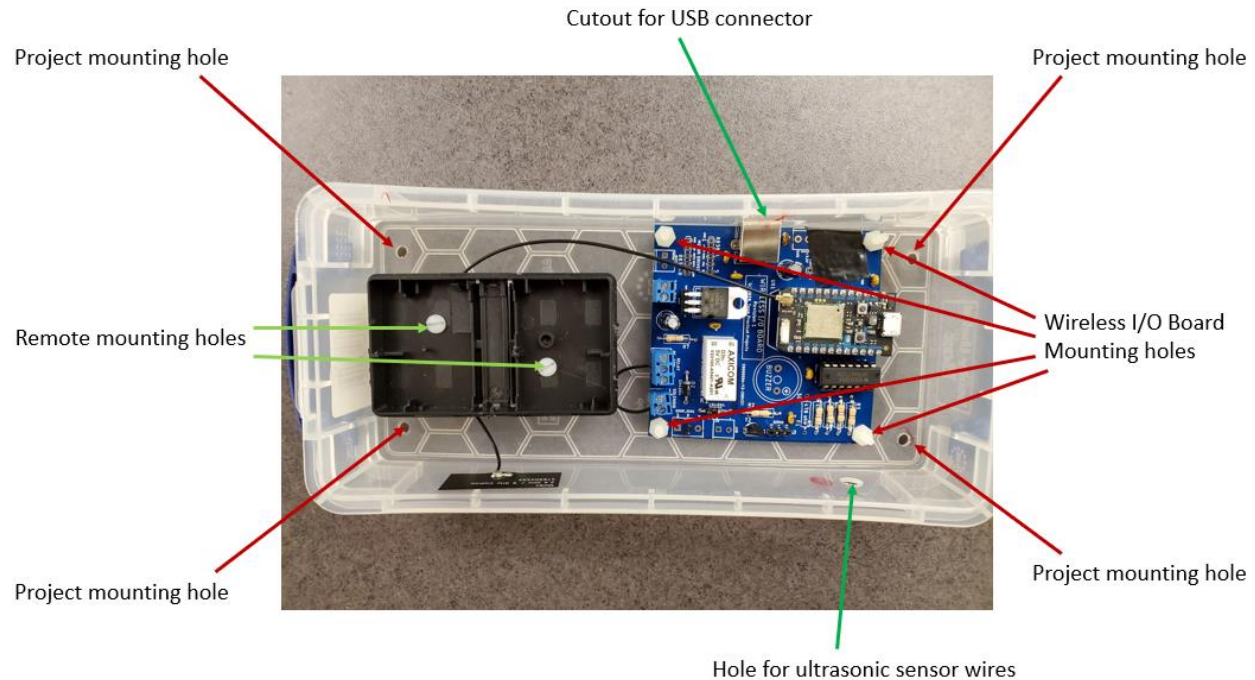

Figure 4-5. Mounting electronic Parts in the Project Enclosure.
The next step is to drill out the plastic project enclosure (pencil box) to accommodate these components. Use figure 4-5 as a guide:
- Drill 4 holes in the corners of the enclosure for mounting the enclosure in the garage (11/64" holes will suffice for mounting with #6 wood screws). These holes are clearly visible in figure 4-5.
- Locate the back of the garage remote unit in the enclosure as shown in figure 4-5. Mark where the open ends of the standoffs contact the enclosure through the transparent rear of the enclosure. Drill these two holes with a 1/8" bit.
- Place the *Wireless I/O Board* in the enclosure, approximately as shown in figure 4-5. Make sure that the project mounting holes are clear of the board and that there is sufficient space between the *Wireless I/O Board* and the garage remote unit to wire the two together. Mark the *Wireless I/O Board* mounting holes and also the center of the cutout for the USB connector. Additionally, mark a location to drill a 1/4" hole in the side of the enclosure below the *Wireless I/O Board* to run the ultrasonic sensor wires through the enclosure. Locate this hole a little to the right of where the sensor wires connect to the *Wireless I/O Board*; see figure 4-5. Drill these two 1/4" holes. Drill out the four *Wireless I/O Board* mounting holes with a 1/8" bit.
Mount the *Wireless I/O Board* into the enclosure using #4-40 x 1/2" nylon screws and #4-40 nylon nuts. Connect the external WiFi antenna to the Photon if you plan on using an external antenna and use the antenna's adhesive back to stick it to the side of the enclosure; see figure 4-5.